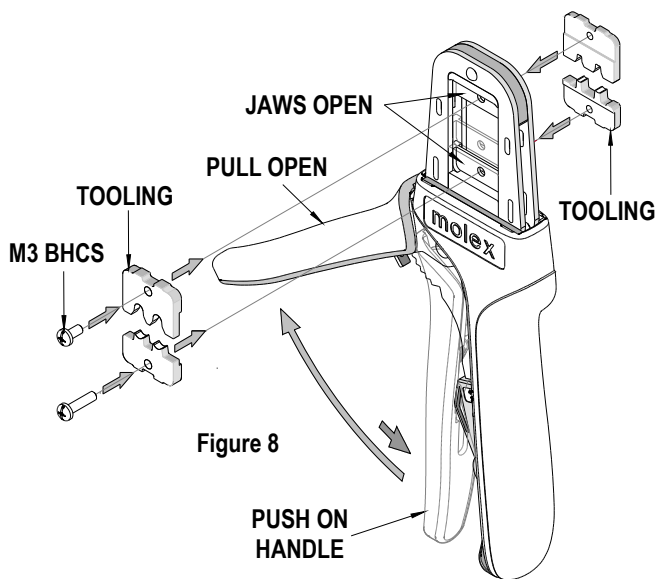

Figure 8
3. Flip the upper tooling to the opposite side and replace the M3 BHCS. Make sure the small markings on the front and back of the hand tool frame, match up and are on the outside of the hand tool frame. See Figure 8 and 9